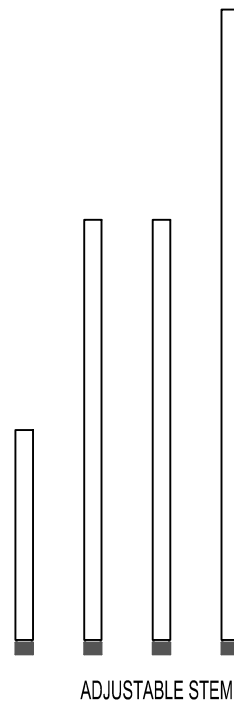

FIGURE-2
- This fixture is supplied with a 4-pcs. stem. There is one 6" section, two 12" section and one 18" section. This feature allows the fixture to be mounted with a stem up to 48" in length in 6" increments (See figure-2)